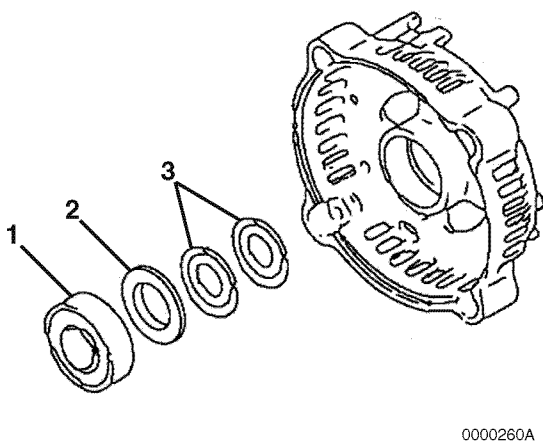

Figure 11-11
- If it is necessary to replace the bearing (Figure 11-11, (1)) in the rear frame housing, use a puller to remove. Discard the bearing. Remove the bearing cover (Figure 11-11, (2)) and two thrust washers (Figure 11-11, (3)).